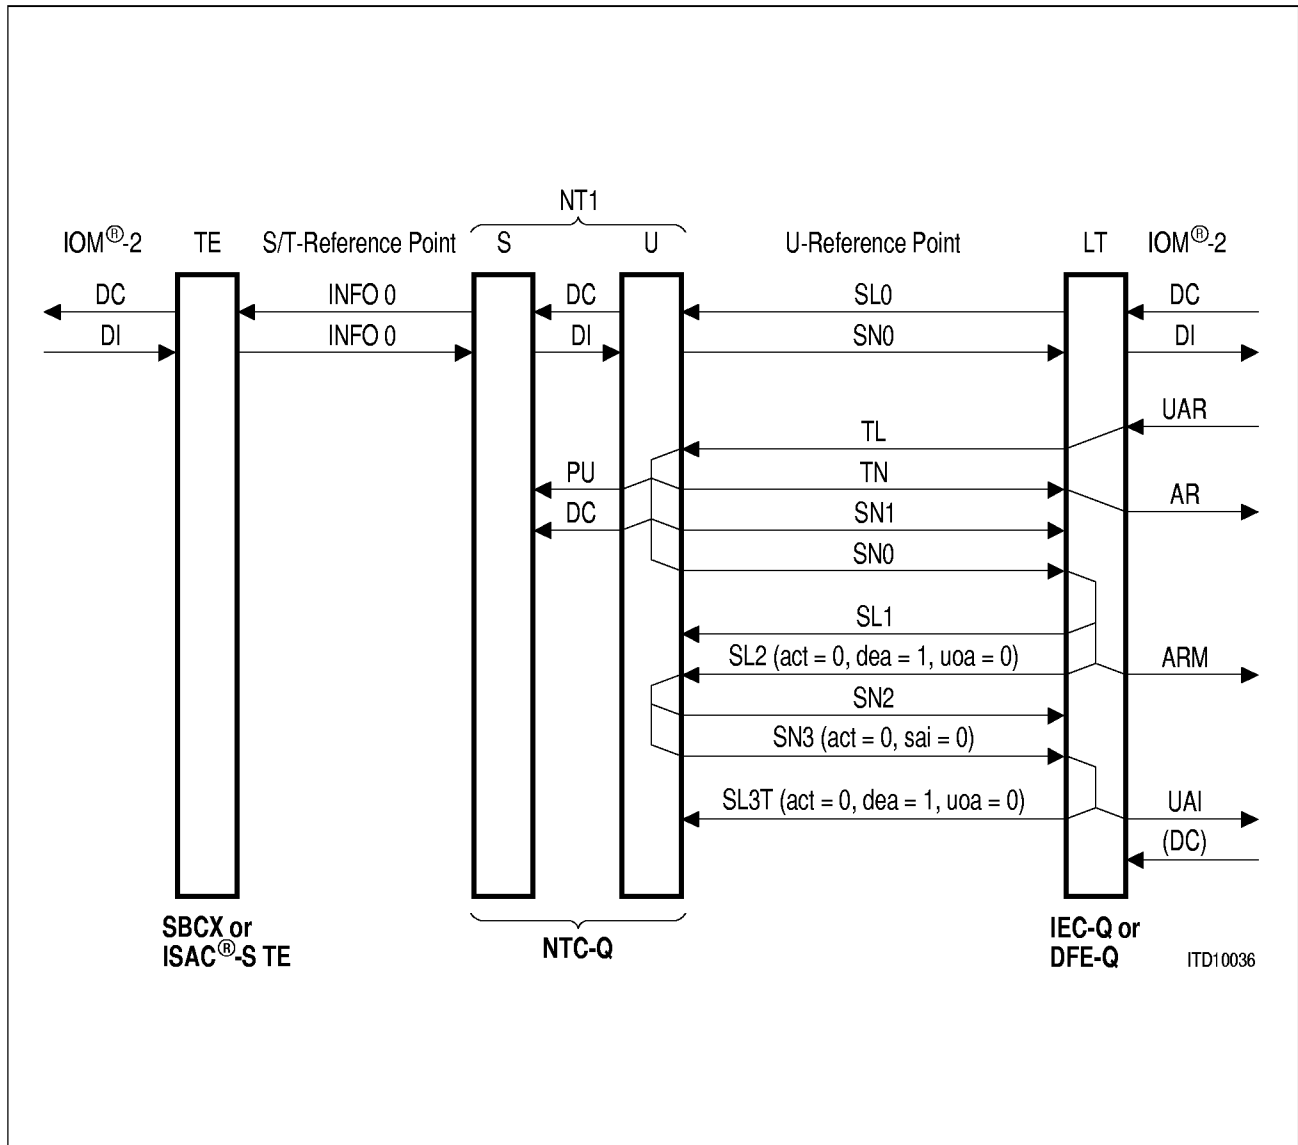

Figure 32 Partial Activation
Figure 32 depicts the procedure if partial activation has been initiated by the exchange (LT).